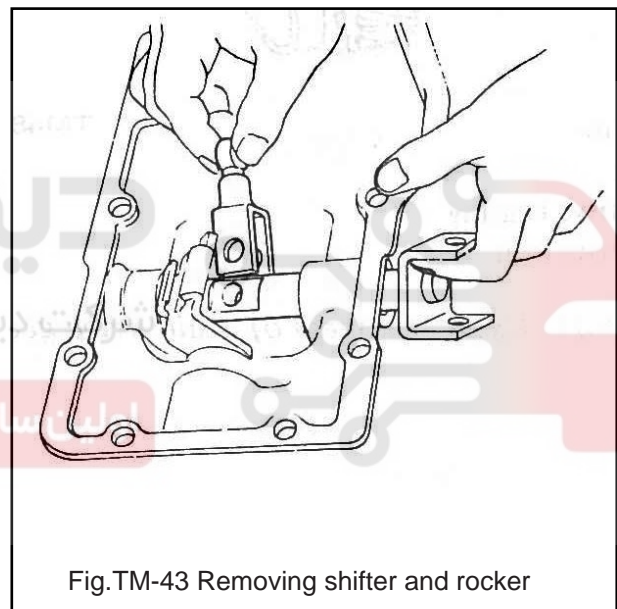

Fig.TM-43 Removing shifter and rocker
1.Pry off snap ring on the shifter spindle, and remove shifter lever from shifter shaft. See Figure TM-43